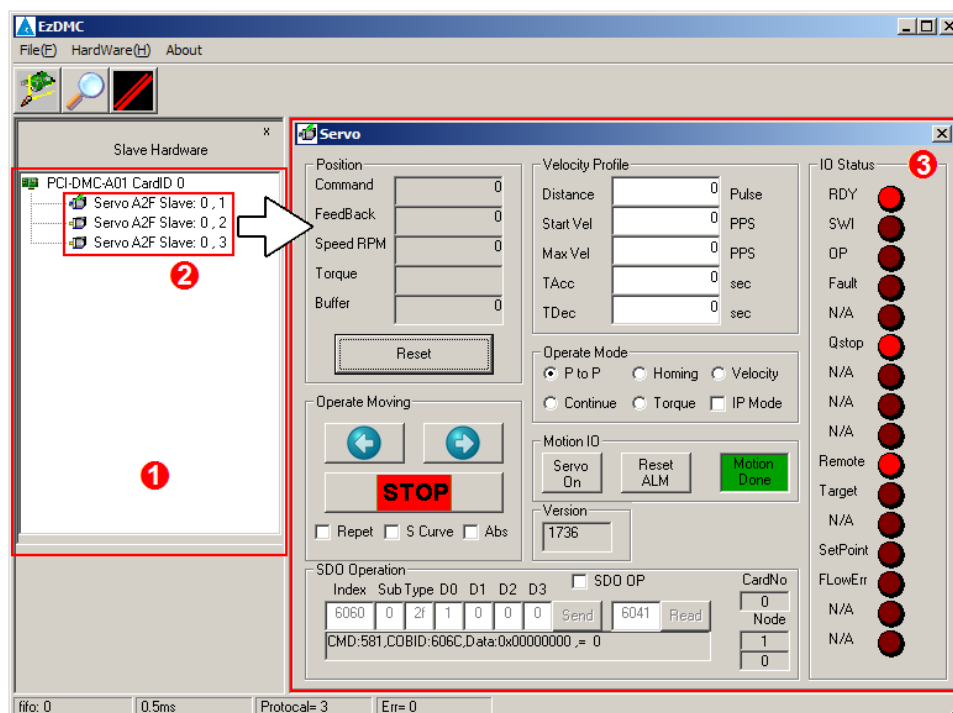

Figure 3.7
When you add the connected extension modules to the serial communications link, the next step is to test the expansion module operations. As shown in Figure 3.7, you can go to the “Left Display Block (❶)” and click on the “icon (❷)” for any expansion module and the “right display block (❸)” will pop-up with the single-axis control interface window for that module. This can be used to control the single-axis operation of that module.